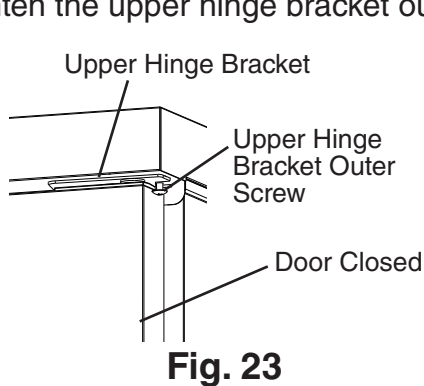
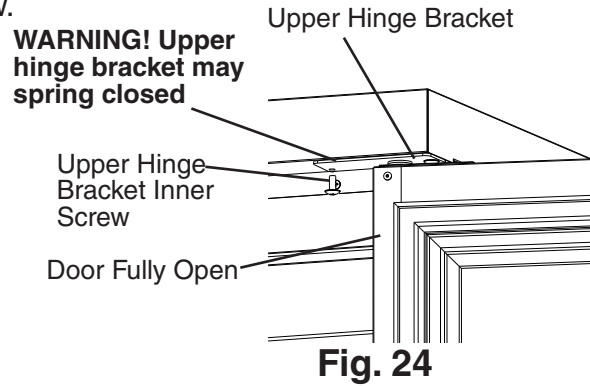

Fig. 23
Fig. 24
- 10) With the door closed, loosen, but do not remove, the upper hinge bracket outer screw. See Fig. 23. Next, open the door to the fully open position and remove the upper hinge bracket inner screw. See Fig. 24.